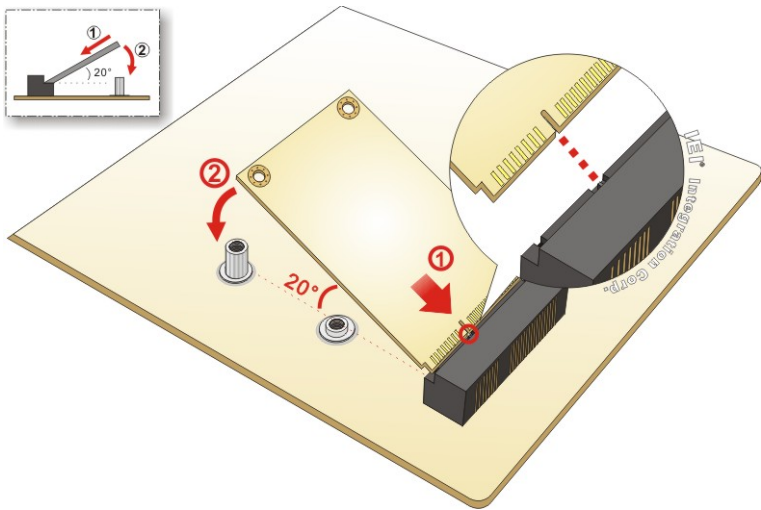

Figure 4-3: Inserting the Full-size mSATA Module into the Slot at an Angle
- Step 3:** Line up the notch on the mSATA module with the notch on the slot. Slide the mSATA module into the socket at an angle of about 20° (**Figure 4-3**).